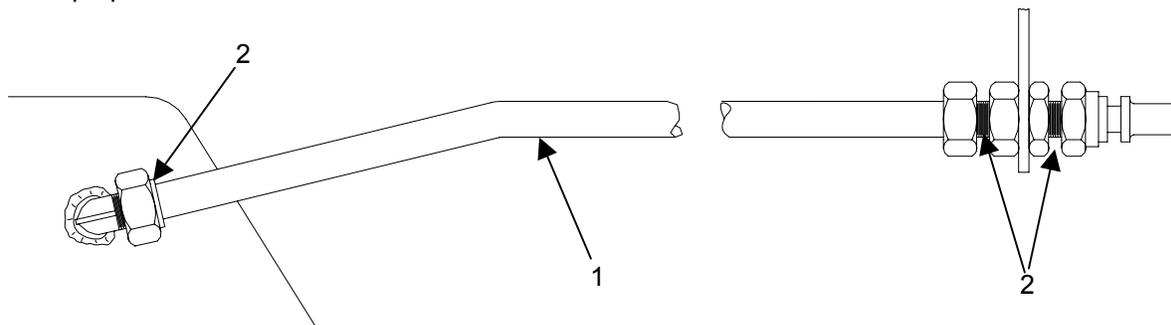

Figure 1. Inspect the Fuel Line Assembly
Inspect the fuel line assembly for damage to the fuel line (**figure 1, item 1**) and fittings. Check for leaks, loose connections(**figure 1, item 2**) or a dented fuel line. Dents or kinks in the fuel line can restrict or prevent proper fuel flow.